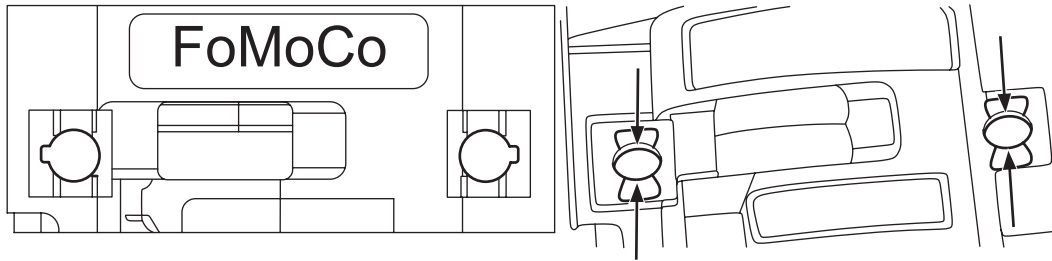
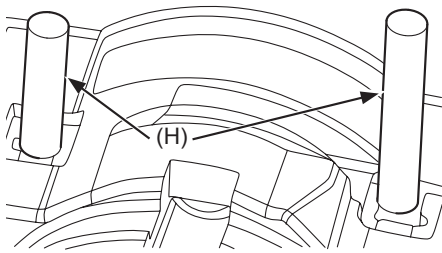
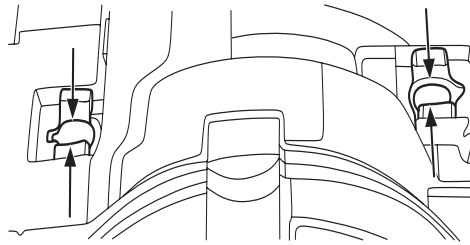

FIGURE 6.1
FIGURE 6.2
FIGURE 6.3
8. Use a chisel or another tool to deform the stacking points in one side of the case (D) (Refer to Figure 6.1). Then insert one Retainer Bar (H) for the opposite side in each cavity (Refer to Figure 6.2), verify that Retainers (H) are under flush of the stacking points and deform the stacking points to keep the retainer bars (H) into position (Refer to Figure 6.3).